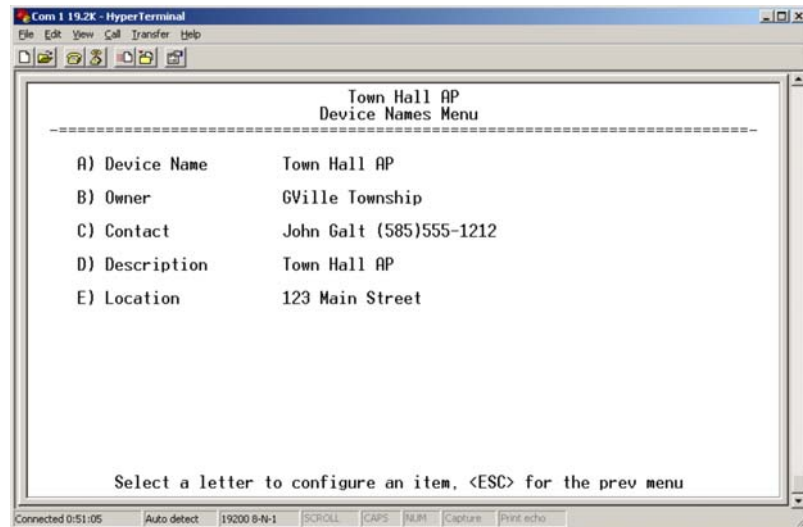

Figure 3-12. Device Names Menu
- **Device Names Menu**—Fields used at user’s discretion for general administrative purposes. The Device Name field is used by the transceiver as the “Realm” name for network security and in the MS screen headings. (See Figure 3-12 on Page 39)